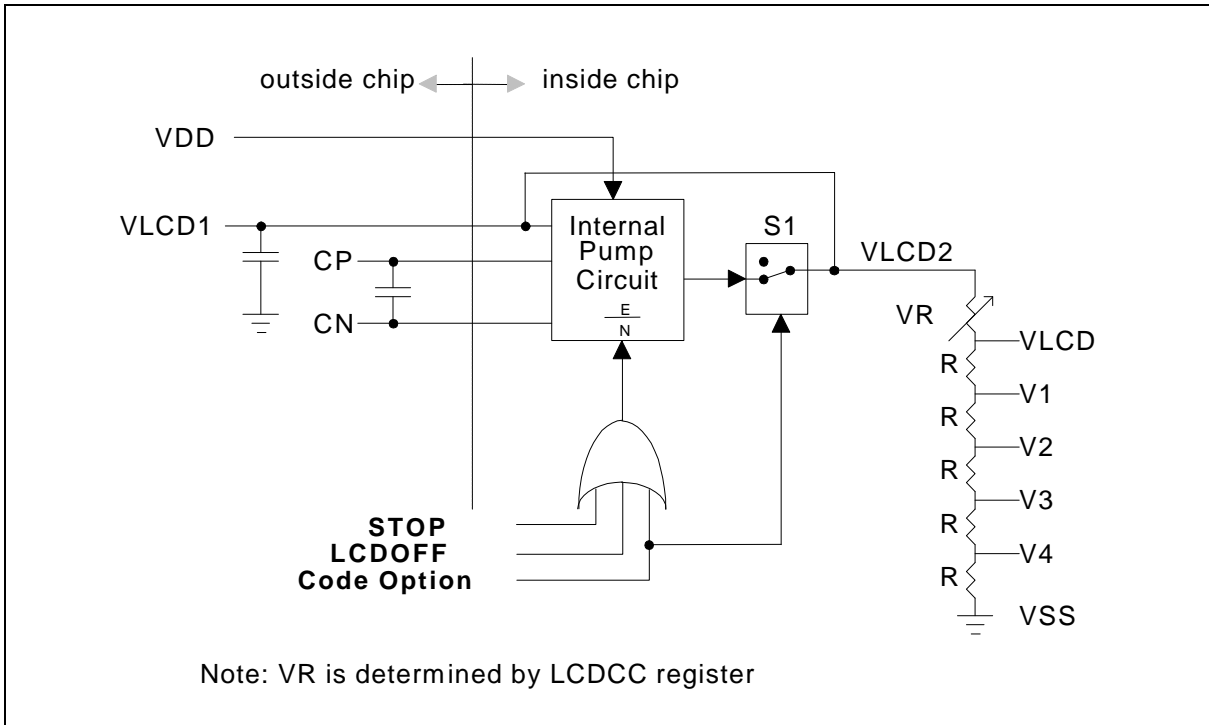

Figure 5-18. LCD power control circuit
internal variable resistor (VR). VLCD voltage is controlled by setting bit2, bit1 and bit0 of LCD contrast control register (LCDCC). LCDCC is determined by executing MOV LCDCC, #1. The Figure 5-18 shows the LDC power control as below: